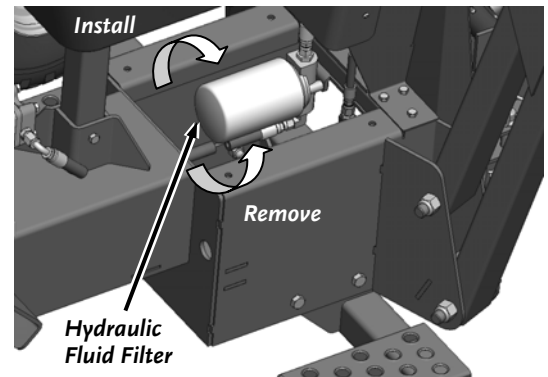

Figure 34
6. Remove the existing Hydraulic Fluid Filter with the Filter Wrench and properly dispose of it (**Figure 34**).